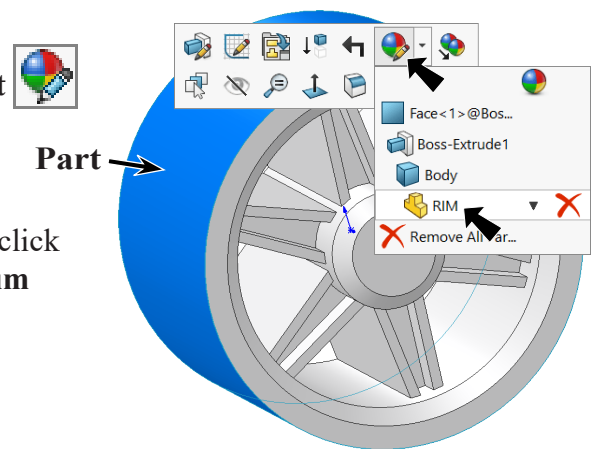

Fig. 44
Step 1. Click part to select, click **Appearance Callout** on the Context toolbar and click **RIM** , Fig. 44.